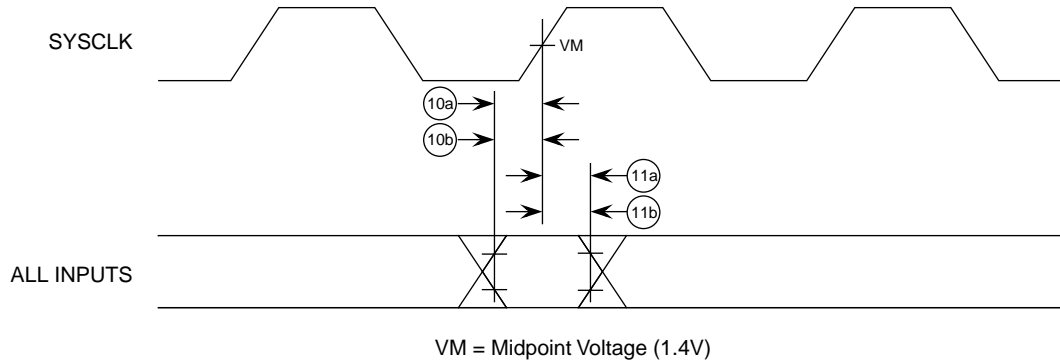
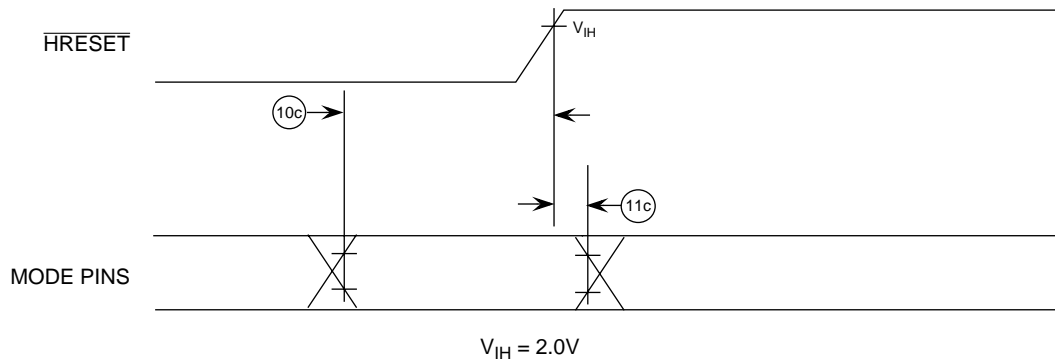

Figure 3. Input Timing Diagram
Figure 4. Mode Select Input Timing Diagram
1. Nominal voltages; See Figure 3 for recommended operating conditions.
Table 9 provides the 60x bus input AC timing specifications for the XPC750P as defined in Figure 3 and Figure 4. Input timing specifications for the L2 bus are provided in Section 1.4.2.5, “L2 Bus Input AC Specifications.”
- The setup and hold time is with respect to the rising edge of $\overline{\text{HRESET}}$ (see Figure 4.).
Figure 3 provides the input timing diagram for the XPC750P.
Figure 4 provides the mode select input timing diagram for the XPC750P.